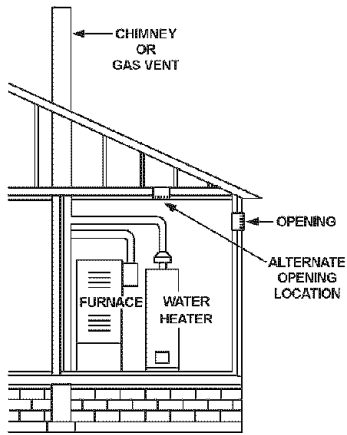

FIGURE 13
- Alternatively a single permanent opening may be used when communicating directly with the outdoors, or with spaces that freely communicate with the outdoors. The opening shall have a minimum free area of 1 square inch per 3,000 BTU per hour (8.3 cm²/kW) of total input rating of all equipment in enclosure. See Figure 13.